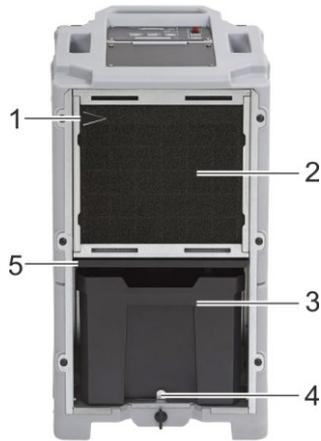

Fig. 2: Series AD740 air dehumidifier (rear view)
The water collecting tank is located in the air dehumidifier (Fig. 2, item 4). The fill level of the water collecting tank is measured via a float, and the air dehumidifier is switched off when the tank is full
1. Unlock the water collecting tank at the bucket locking device (fig. 2, item 4 on page 8).
4. Attach the condensate drain hose to the condensate drain pipe (Fig. 2, item 6) and fix it with a hose clamp.